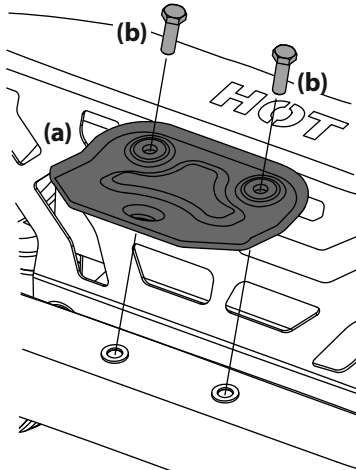

Figure 2
- Locate Hitch (a) and install on the rear of the frame using the two hex washer screws (b) provided. See Figure 2.